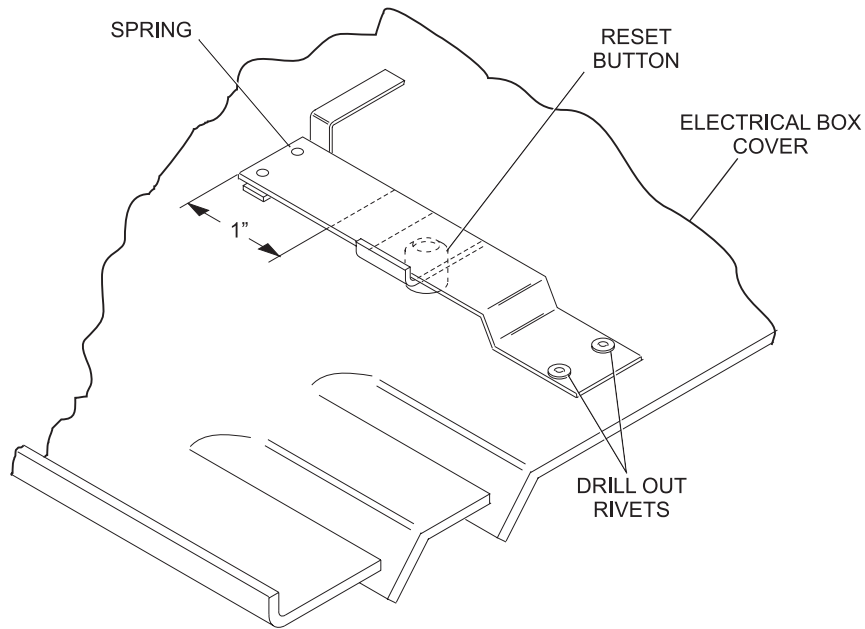

Figure 5
21. Before replacing the pinsetter electrical box cover, it will be necessary to make a modification. If the cover has a reset button and spring, it will be necessary to remove it by drilling out the rivets. The new relay's reset switch will stick through the hole in the cover. If there is no reset button, it will be necessary to cut a hole in the electrical box cover. Refer to *Figure 5*.
22. Slide the cover onto the electrical box and visually check to insure that the relay's reset button does not bind and works freely. It will be necessary to enlarge the hole in the cover to approximately 3/4" diameter. Refer to *Figure 5*.